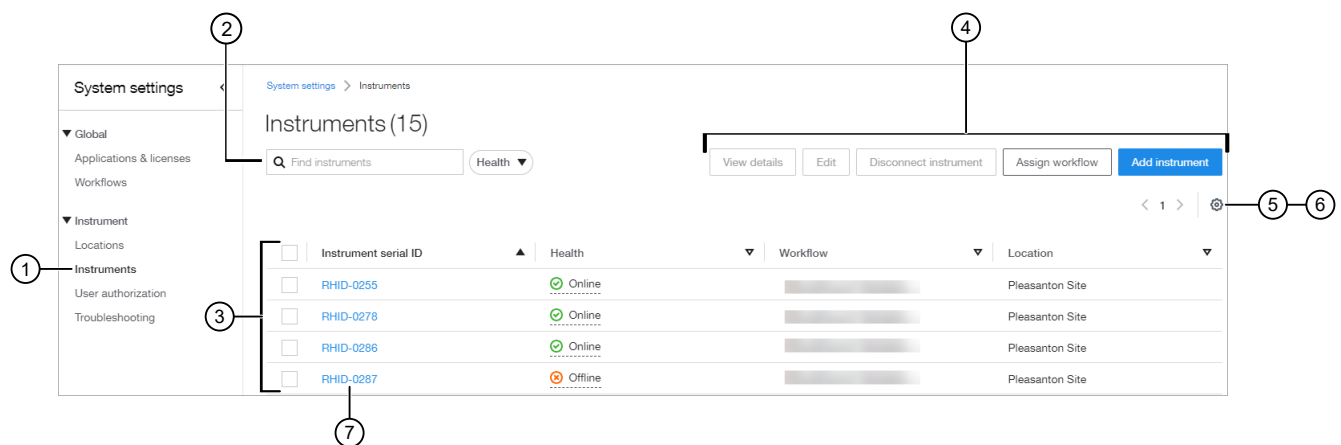

Figure 18 Instruments screen
3. Depending on your user role permissions, you can use the screen tools to perform the functions shown in Figure 18.